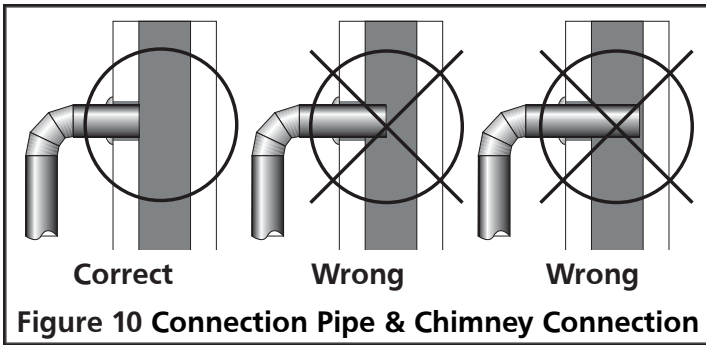

Figure 10 Connection Pipe & Chimney Connection
- Must not be obstructed by the chimney connector pipes, such as the Figure 10 below illustrates.